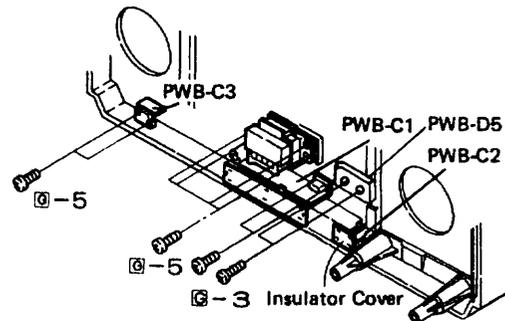

Figure 6-2
- ① Remove two screws at the speaker P.W.B. shown in Fig. 6-2, and take the P.W.B. off.
- ① Remove eight screws at the power block and a insulator cover - shown in Fig. 6-2, and take the power block off.